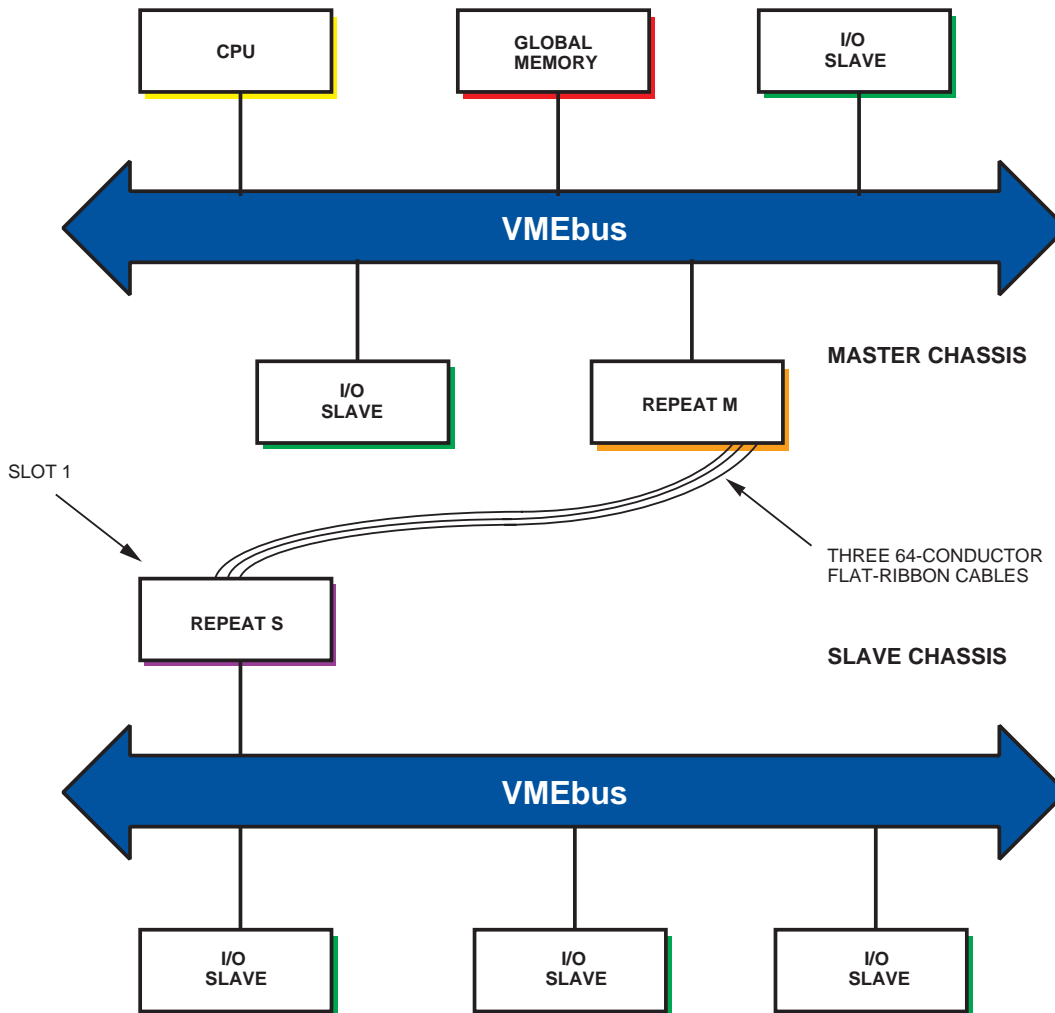
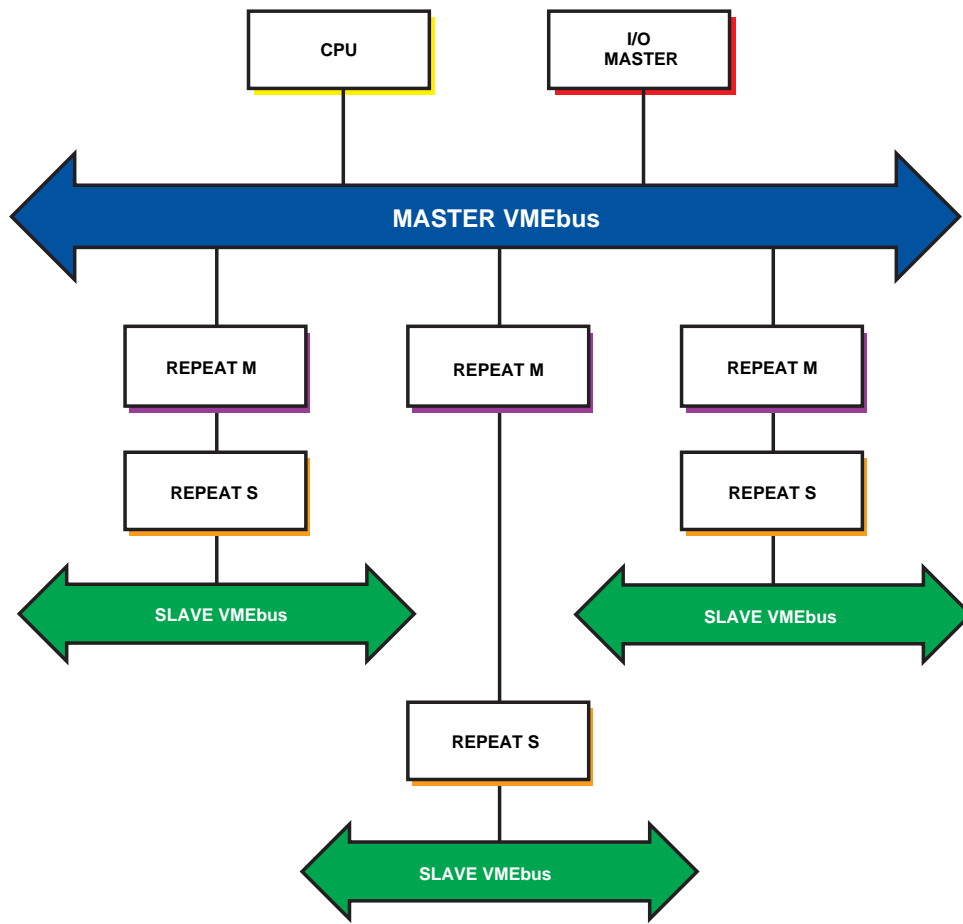

Figure 1. Typical VMEbus Configuration Using the VMIC VMIVME-REPEAT Link
Figure 2. Multiple Slave I/O Chassis
**REPEATER LINK OVERVIEW** — The VMIVME-REPEAT L is a two-board set which allows VMEbus slave I/O boards residing in one VMEbus chassis to be controlled by a VMEbus master residing in another chassis. The VMEbus chassis in which VMEbus masters reside is referred to as a master chassis, while the VMEbus slave boards reside in a slave chassis. The two-board set is configured as shown in Figure 1 with one board designated for the master chassis while the other board is designated for the slave chassis. A master VMEbus chassis can communicate with several slave chassis by using multiple VMIVME-REPEAT Links, as shown in Figure 2.